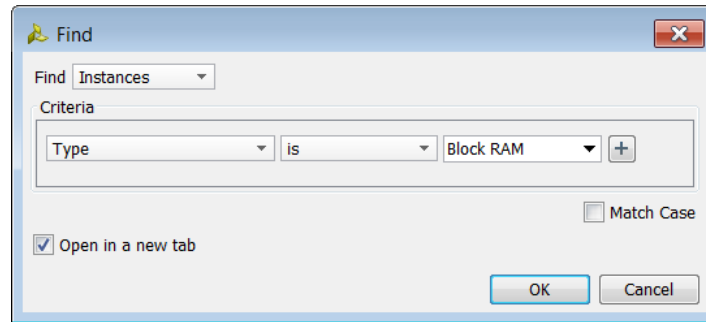

Figure 28: Find dialog box
1. Select **Edit > Find** to open the Find dialog box, as shown in Figure 28, and search for Block RAMs.